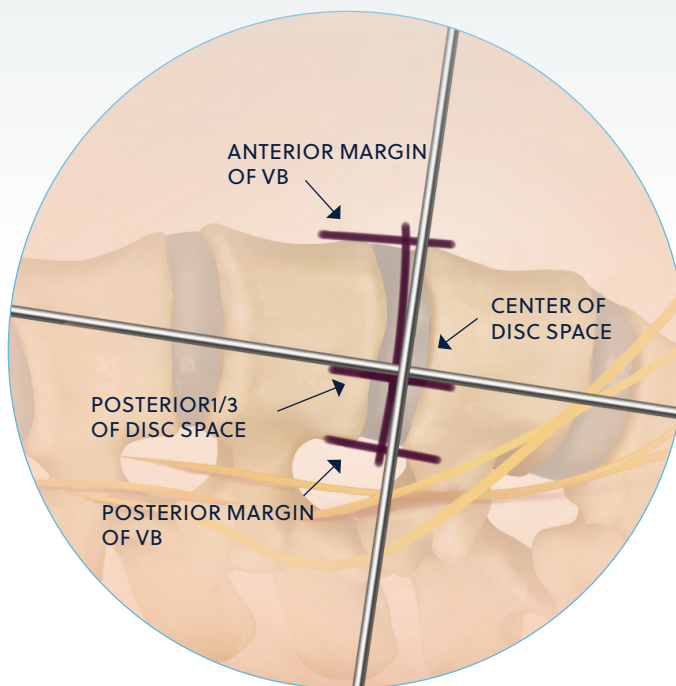

Figure 10
- Mark the incision point by marking the angle of the disc space, the anterior margin, posterior margin and midpoint to the posterior third of the disc space (**Figure 10**).